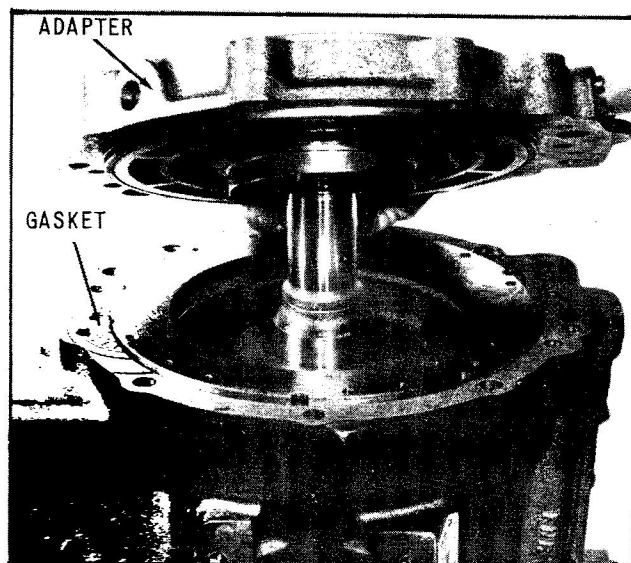

Fig. 54 Install Adapter
24. Use petroleum to hold adapter gasket on case and install adapter to transmission case. Install four 3/8-16 x 1-1/4 adapter bolts and torque. Position transmission right side up on bench for the remainder of assembly procedure, (Fig. 54).